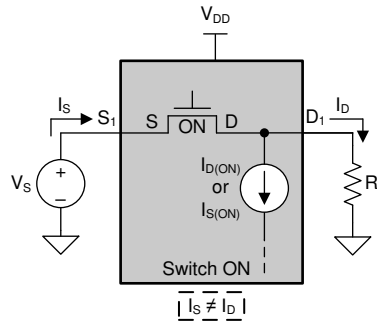

Figure 4-9. ON Leakage Current
- **ON Leakage Current:** Leakage current measured at the input port in the ON state, with the corresponding output port in the ON state and the output being open (See Figure 4-9). Leakage current during the high-impedance state should be very small. Leakage current, if high, may load an isolated bus and corrupt the data.